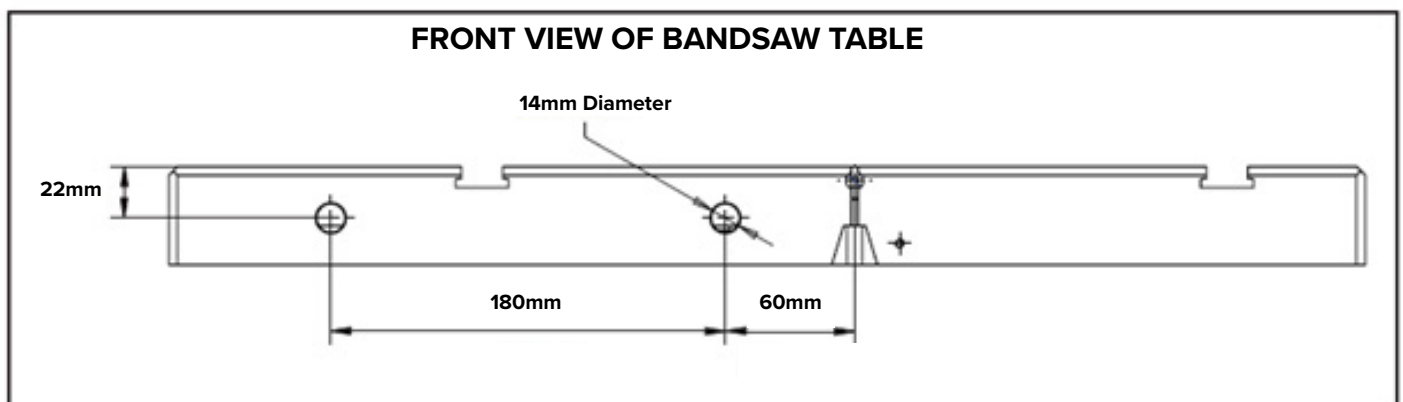

Figure 1
To install the new front rail on the table's front skirt, ensure that the two mounting holes are 14mm (9/16") or larger in diameter, and follow the dimensions outlined in Figure 1. This alignment will position the '0' calibration on the rail with the center of the slot in the table, ensuring accurate fence settings for ripping. Additionally, it will position the carrier assembly correctly on the rail so the fence can move smoothly above the table surface without binding.
1. If necessary, enlarge or drill new holes in the table front skirt according to the dimensions provided in Figure 1.